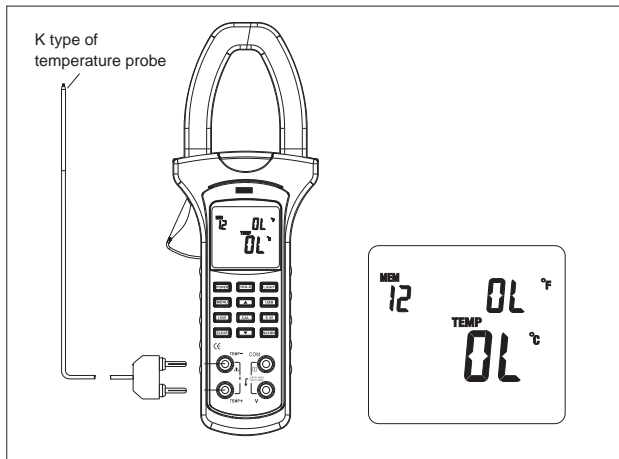

Figure 10
G. Temperature °C (main display) and Temperature °F (secondary display) Measurement (see figure 10)